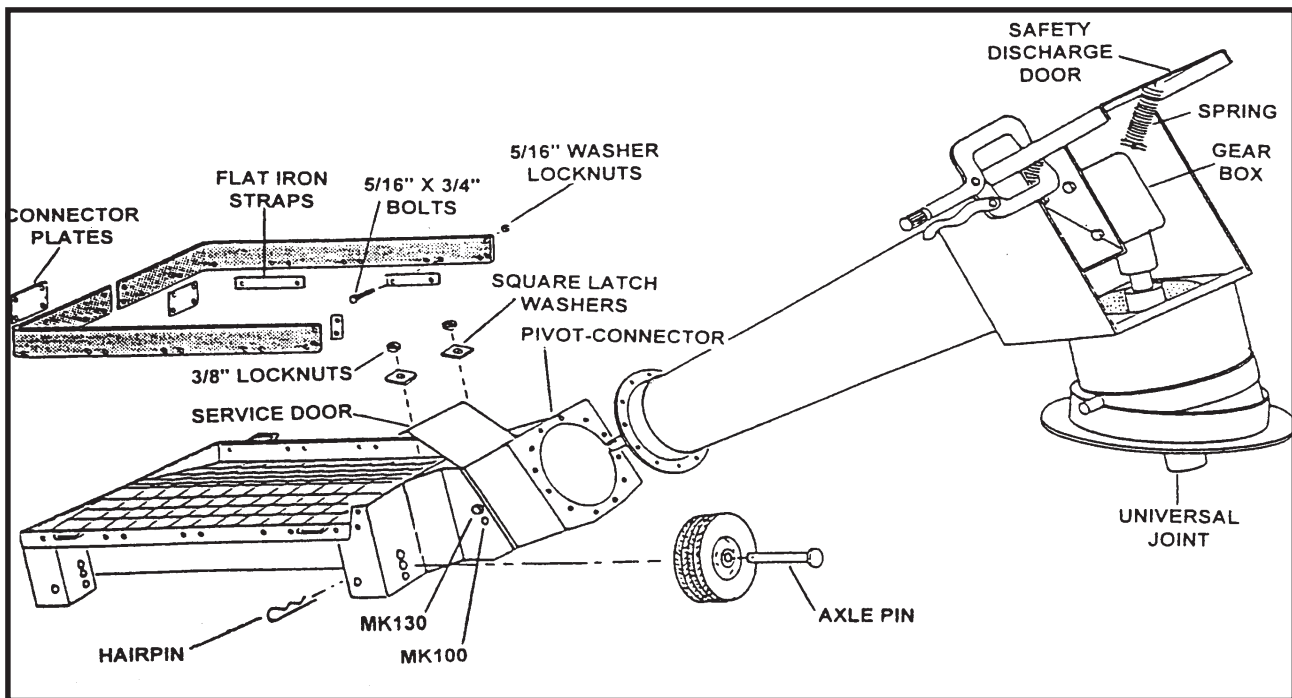

Figure No. 34
1. Attach the pivot-connector to appropriate MK100 holes in hopper with two 5/8" x 1-1/2" bolts and locknuts (see **Figure No. 34**). DO NOT OVERTIGHTEN, tighten snug only as these bolts act as pivot points.
7. Attach the two piece rubber extension to inside of hopper lip with 5/16" x 3/4" bolts and washer locknuts and flat iron straps provided plus the two piece extension connector plates. (See **Figure No. 34**)
8. Attach the four pneumatic wheels to the four hopper corners with the axle pins and hairpins. The offset portion of the wheel must rest against the hopper. You have a choice of three height settings. (See **Figure No. 34**)